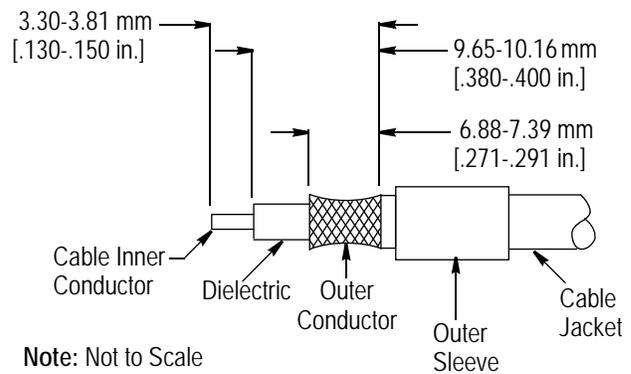

Figure 3
3. Trim the cable outer conductor, dielectric, and inner conductor to the dimensions given in Figure 3.